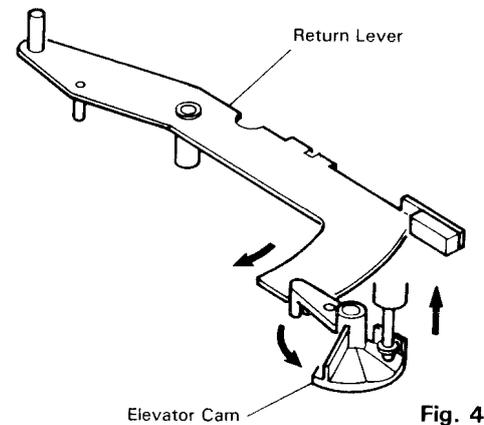

Fig. 4
- When the main gear starts to rotate at the end of playing, the return lever rotates under the action of the main gear cam to press the elevator cam. The upward movement of the elevator cam is directly converted into movement of the elevator, lifting up the tonearm. (Fig. 4)